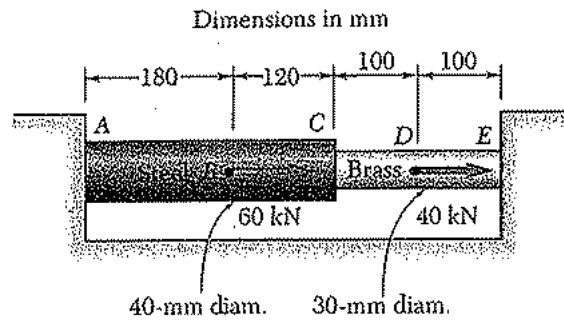

Figure 2.2
- c) Two cylindrical rods, one of steel and the other of brass are joined at C and restrained by rigid supports at A and E. For the loading shown in Figure 2.2 and knowing that $E_{\text{steel}} = 200 \text{ GPa}$ and $E_{\text{brass}} = 105 \text{ GPa}$, Determine: